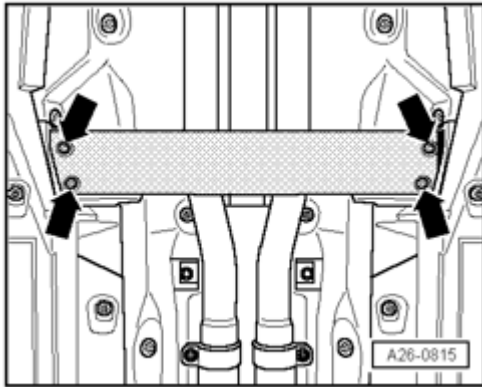

Fig. 214: Identifying Special Tools - Recirculating Valve For Turbocharger -N249-, Testing
- Testing. Refer to **Fig. 214**